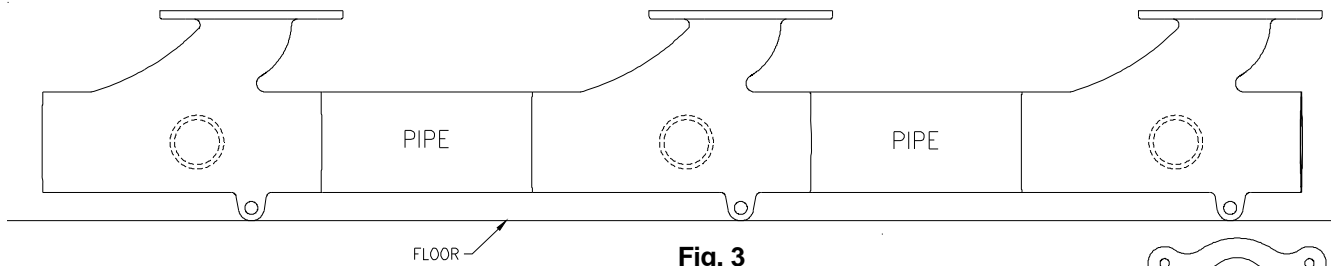

Fig. 3
3. Roll entire assembly until the waste line barrel is rolled under and fitting faces are positioned upward. Support assembly with blocks (provided by others). See Fig. 3